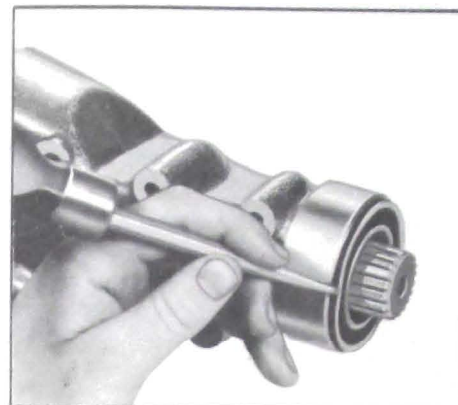

Figure 4-55—Removing Extension Oil Seal
7. Remove case extension oil seal. See (Figure 4-55).